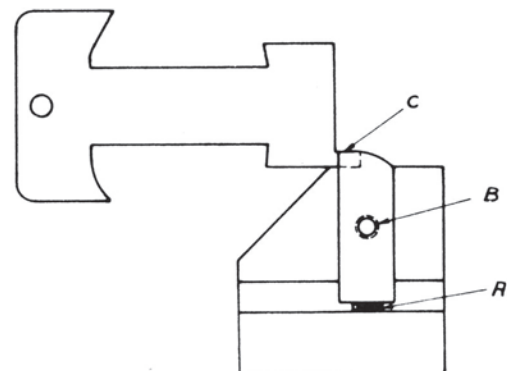

Fig. 4
3. The lower cutter is in the proper position, when the gauge is placed with the hook flush with top of cutter at C, as shown in Fig. 4. Adjust same as upper cutter.